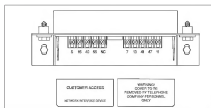

Figure 4. Wiring Terminals
- Connect the wiring in the terminal blocks as shown in Table A. The terminal block will accommodate a #6 Spade Lug. The terminal blocks are shown in Figure 4.